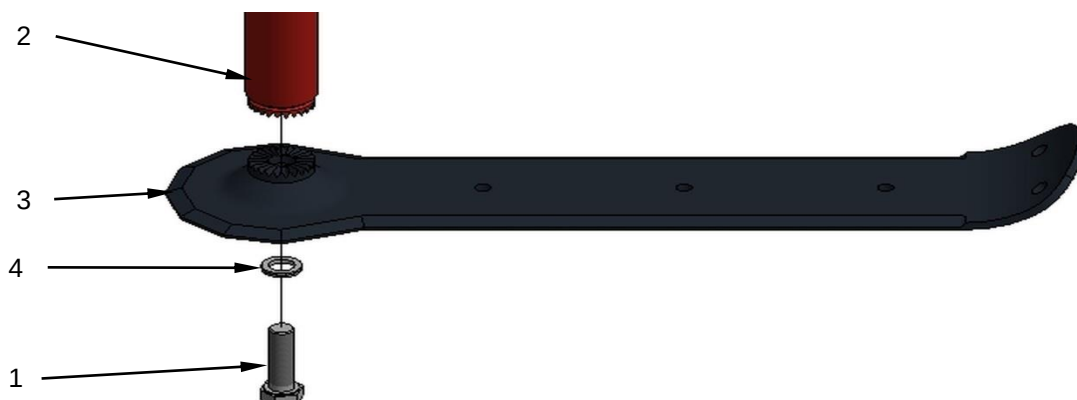

Figure 16 Changing the blade share
If the RADIUS blade shares are worn out, they should be replaced in good time. To do this, loosen the screw (Figure 16, item 1) from the RADIUS shaft and clean the matching surface (serrated disc Figure 16, item 2). Place the new blade share (Figure 16, item 3) on the serrated disc and tighten the screw with washer (Figure 16, item 4) firmly. (**Tightening torque 190 Nm**)